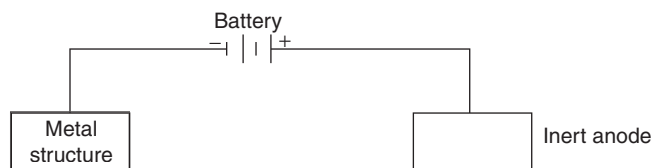

Figure 42 Impressed current method.
- **Impressed current method:** Another method of providing cathodic protection is by applying a direct current larger than the corrosion current. The protected metal is made cathodic by connecting it to the negative terminal of a DC source. Positive terminal is connected to an inert anode like Graphite. The metal structure being cathode, does not undergo corrosion (Figure 42).